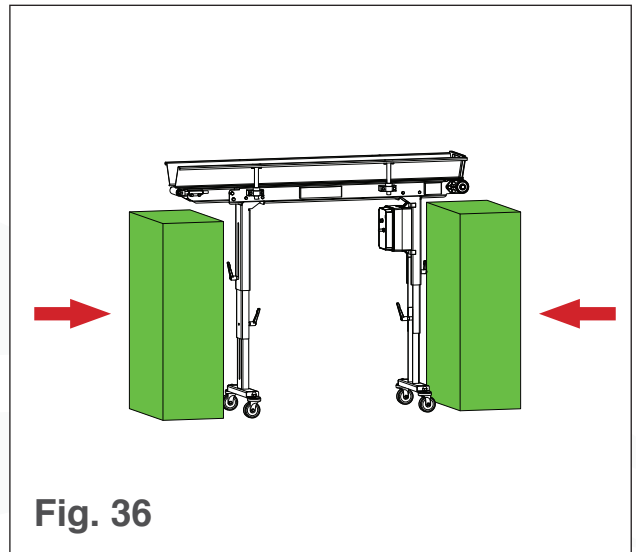

Fig. 36
4. Place two supports under the conveyor bed so it does not fall to the ground when the legs are removed (see Fig. 36).